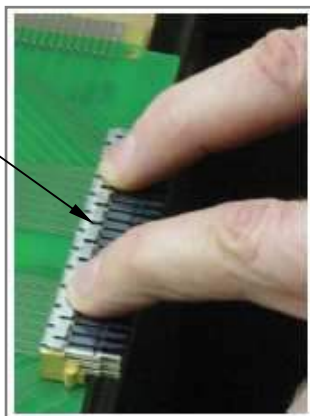

Figure 3
3. Press down on the front of the retention clip by hand or use a small, piece of flat stock. It will become loose enough to remove it by hand. See Figure 3.